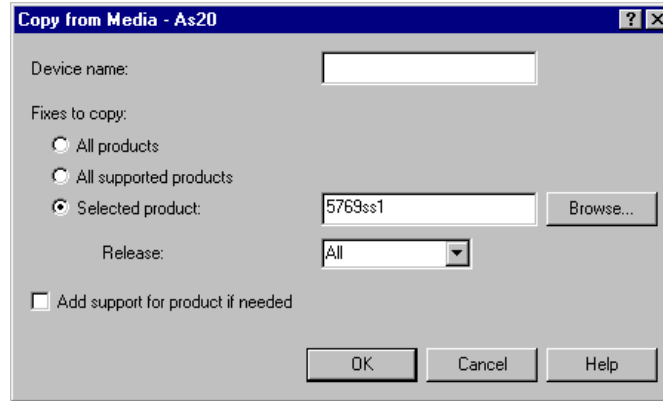

Figure 76. Copy from Media window
5. Select **Copy from media** to see the window that is shown in Figure 76 on page 101.